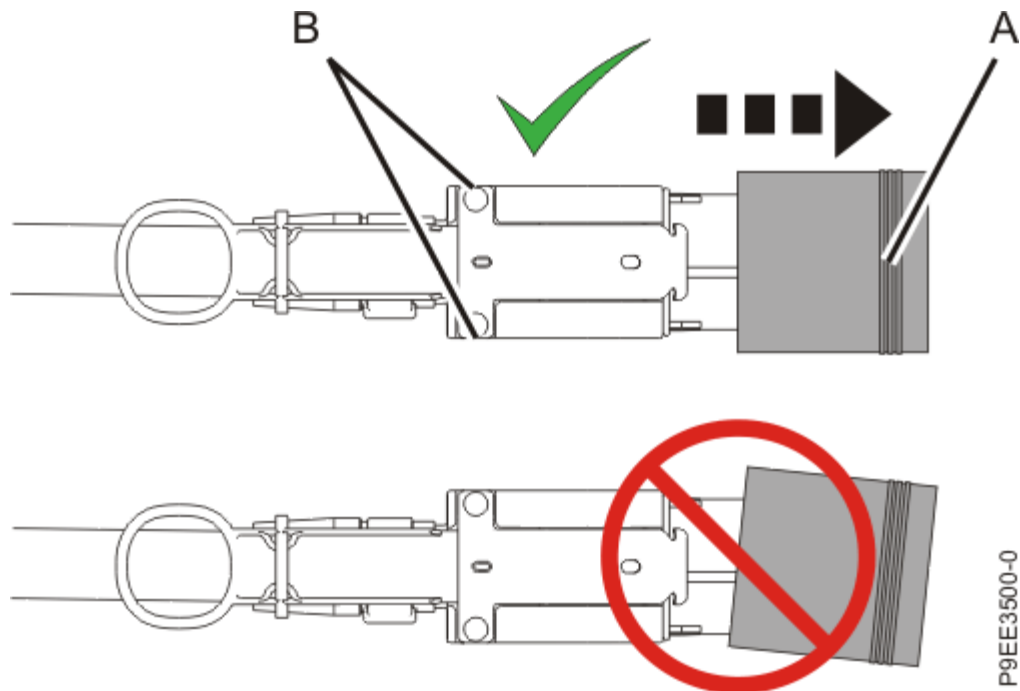

Figure 17: Removing the protective cover from the connector on the expansion drawer cable
- Then, grasping the cover on the long edge (**A**) with the index finger and thumb on your other hand, pull off the protective cover. See Figure 17 on page 24.